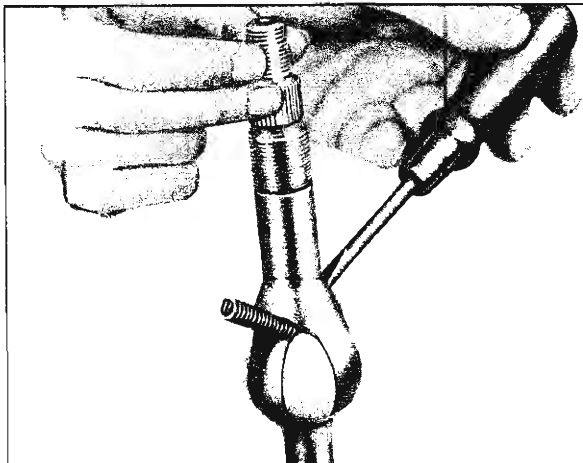

Fig. 30—Installing Spherical Joint Spring
9. Insert the joint preload spring through the spheres into the lower shaft. Then, using the upper shaft to hold the spring in place, carefully feed the spring into the upper shaft joint with a narrow bladed screw driver (fig. 30).